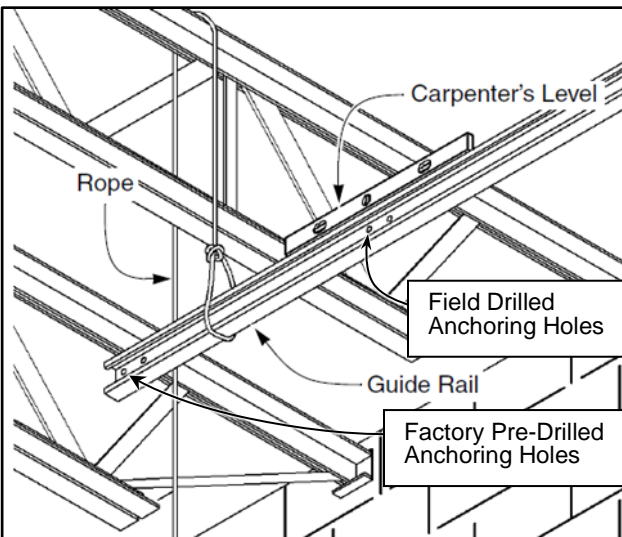

**Figure 61**
2. Identify, locate, and orient the Standard Lift Upper Track Assembly for each side which includes the upper track transition bracket, 90° upper inner and outer transition tracks, horizontal section track, transition brackets, locating pins, and fasteners. Install on both side column assemblies as shown. Shim the transition bracket to the wall as necessary. Disassemble as needed. (See Figure 61 & Figure 63)
3. Confirm that guide pins are installed in the horizontal guide rail. (See Figure 61)